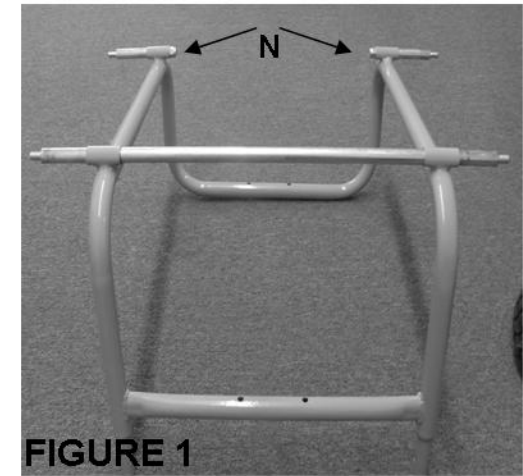

FIGURE 1
1. Turn Frame (A) on it's back. Insert Axle Bolt (N) thru the axle bushing on the frame (on the front wheels, crank handle side). Put axle nut (O) on the axle. Hold the axle bolt with one wrench and tighten the nut on the inside of the frame with another wrench. Tighten securely. Repeat for other side. Insert the axle rod, part (D) into the axle bushings under the u-handle side. This axle rod is used to tilt the cart back with your foot for added maneuverability. **See Figure 1.**